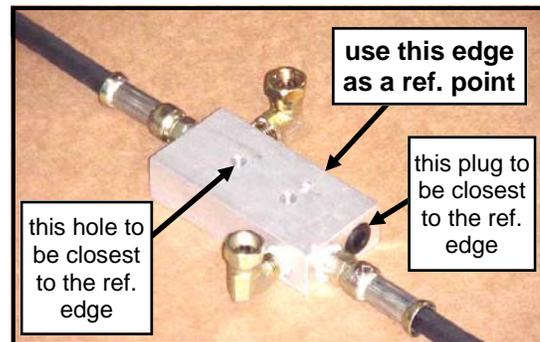

Fig. 4.1—Crossover Relief Valve Assembly
4.1 **NOTE: orientation is critical. Study figures 4.1 and 4.2.** Apply thread sealer to the male threaded ends of two NPT 1/4" male x 1/4" female 90° swivel elbows. Thread the elbows in where shown and tighten fully so that the swivel ends point straight up as shown. Apply thread sealer to the two NPT 1/4" male x 17" long high pressure hoses. Thread the two hoses into the end ports as shown and tighten fully.